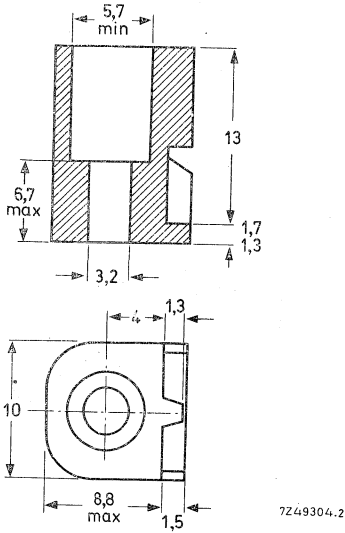
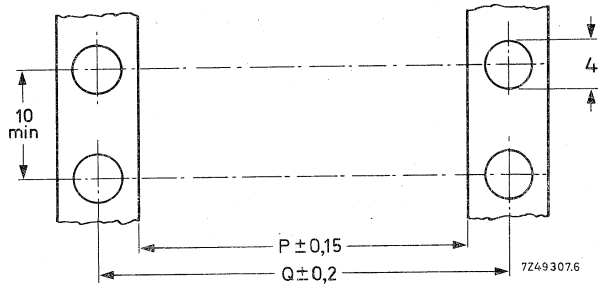

Fig. 3 Thermoplastic mounting bracket 4332 026 06560.
Fig. 7 Piercing diagram for rail mounting; $P = L_{\max} + 7$ mm, $Q = L_{\text{nom}} + 13,4$ mm. For L_{nom} and L_{\max} see Table 1.
- thermoplastic bracket, catalogue number 4332 026 06560 (Figs 3 and 4);
In Figs 7 and 8, piercing diagrams are given for connectors with mounting brackets as shown in Figs 3 and 5.